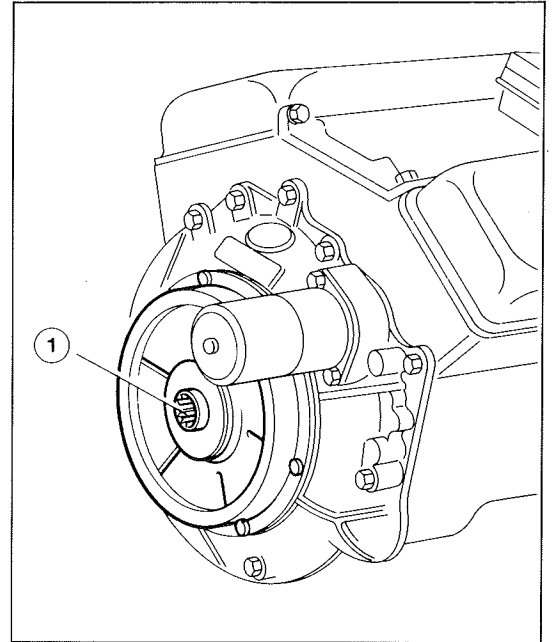

Figure 2
2. Mount a torsion-elastic coupling (Figure 2, item 1) to the engine flywheel.